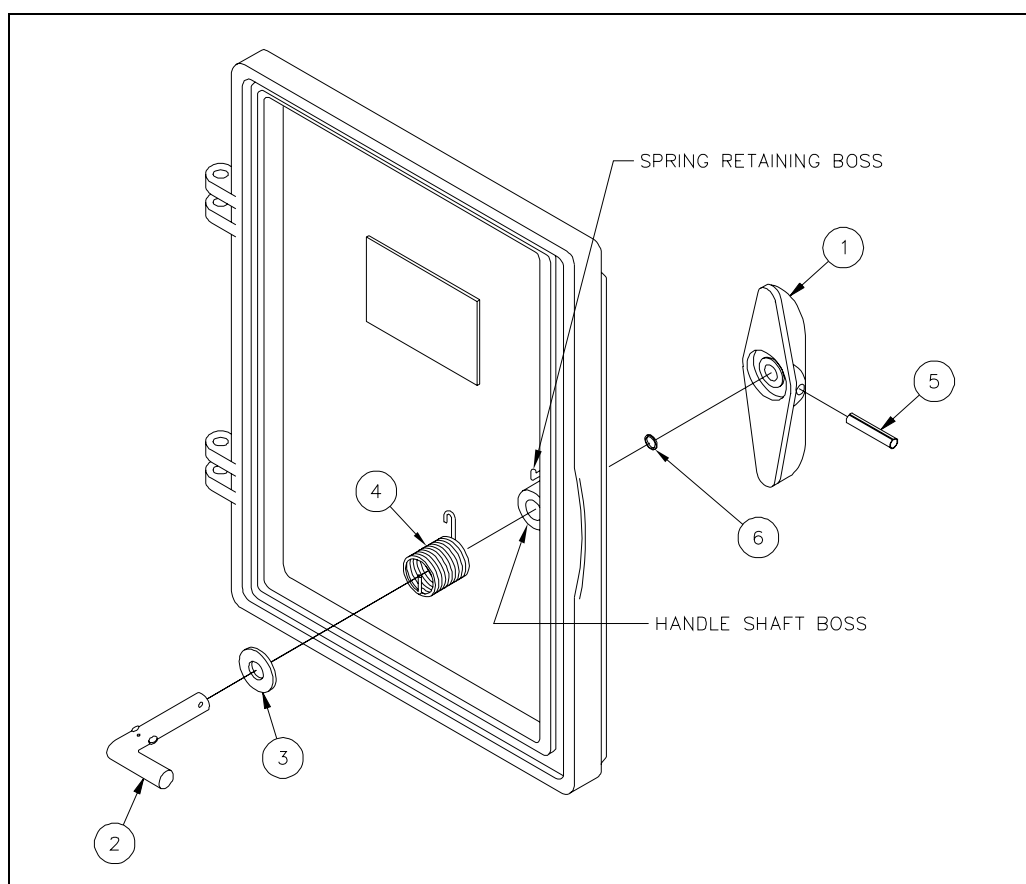

Figure 1.
2. Install the handle shaft through the flat washer and into the handle shaft boss as shown in Figure 1.
4. Position the handle of the shaft on the front of the door with the longer rib of the handle towards the bottom of the door. Orient the shaft so that the latching leg of the shaft on the inside of the door is positioned horizontally and pointing toward latch side of the door as shown in Figure 1. Align the holes in the handle and the shaft. Install the roll pin through the handle and into the shaft hole so that the amount of roll pin on each side of the shaft is approximately the same and does not protrude outside the handle.